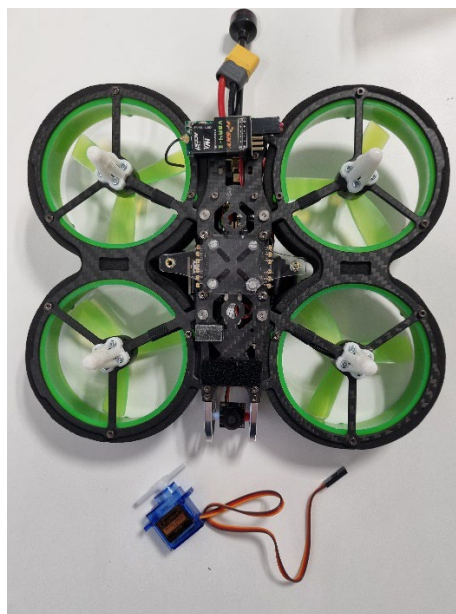

Figure 1. Base of the drone and servo
- The attachment must be fastened to the drone using the acrylic **attachment plate** shown in Figure 1. The plate has 2 x M3 inserts spaced 63 mm apart as is located at the centre of the drone.